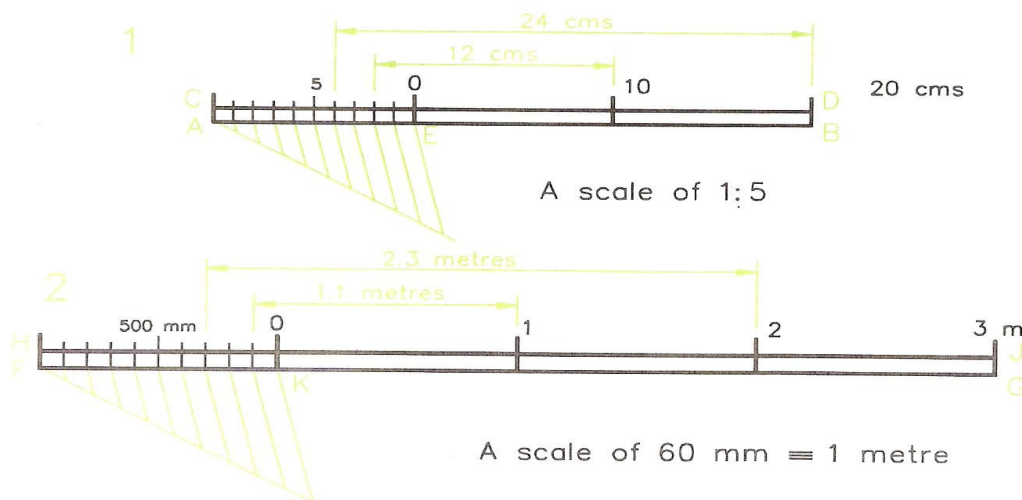

Figure 6 - Drawing Scales
(Figure 6) - Constructing a scale of 1:5. Each 1 mm on the drawing represents 5 mm on the item being drawn.
4. Complete the scale as shown in Figure 6.
**Note:** two examples of taking scaled measurements from the scale are shown in Figure 6. Examine the scale and you will understand why the scale is numbered with 0 being at the first division point along AB.
(Figure 6) - Constructing a scale of 60 mm represents 1 metre.